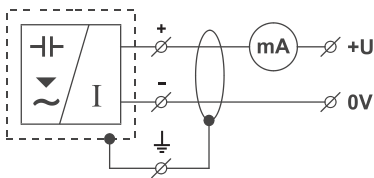

Fig. 11: Connection diagram of level meter with current output CLM-70_--I
5. Connect the cable to threaded terminals, as shown in the diagram in Fig. 11. Tighten the terminals and cable gland firmly. For the tightening torque, see the Technical Specifications.